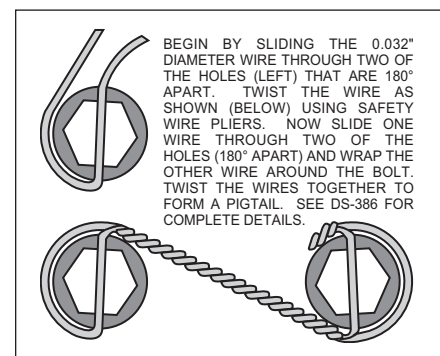
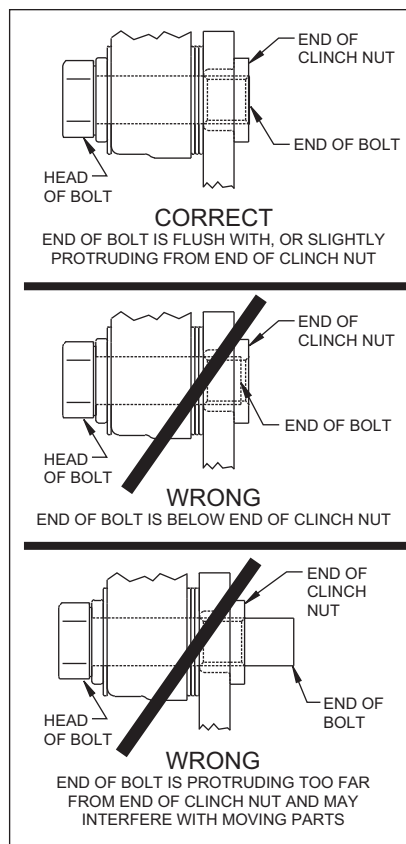

Figure 6. Safety Wire Diagram
Figure 7.
- Align the correct hole pattern in the rotor (3) with the stud pattern on the axle flange. **NOTE:** Some OEM and after market axles come with stud sizes larger than 0.50” diameter. Verify stud size and have a qualified machine shop drill the bolt circle of the rotor to the correct size, if necessary. Slide the rotor (3) over the wheel studs covering the mounting bracket assembly (1) and against the axle flange face.
•**NOTE:** Please reference the caution statement at the beginning of the assembly instructions. **WITH THE BLEED SCREWS POINTING UP**, mount the caliper (4) over the rotor (3) and onto the caliper mounting bracket (1) using washers (5) and mounting bolts (6). View the rotor through the top opening of the caliper. The rotor should be aligned in the center of the caliper. If not, adjust the caliper by using 0.032 inch shims (7) by placing them between the caliper mounting bracket (1) and the caliper (4). Add as many shim washers (7) as necessary to achieve the correct alignment. **NOTE:** The end of the bolt must be flush with or slightly protruding from the head of the clinch nut. See Figure 7. Place spare shims (7) between washer and caliper mounting ear to achieve the proper mounting fastener configuration. Always use the same amount of shims on both the top and bottom caliper mounting bolts (6). Apply red *Loctite*® 271 to the mounting bolt threads (6), torque to 30 ft-lb. Safety wire the caliper mounting bolts (6) using standard 0.032 inch diameter stainless steel safety wire as shown in Figure 6. Please refer to Wilwood’s data sheet DS-386 (available at [www.wilwood.com/pdf/ds386.pdf](http://www.wilwood.com/pdf/ds386.pdf)) for complete safety wire installation instructions.